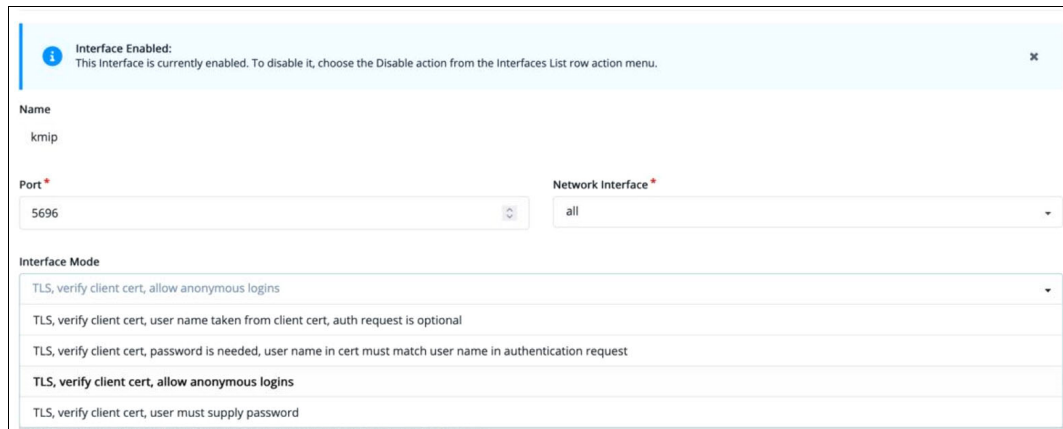

Figure J-27 Interface details
- b. Verify the interface mode port and verify that the network interface is set to all. See Figure J-27. If a password is needed, ensure that it is defined and available before the defining the encryption MES.